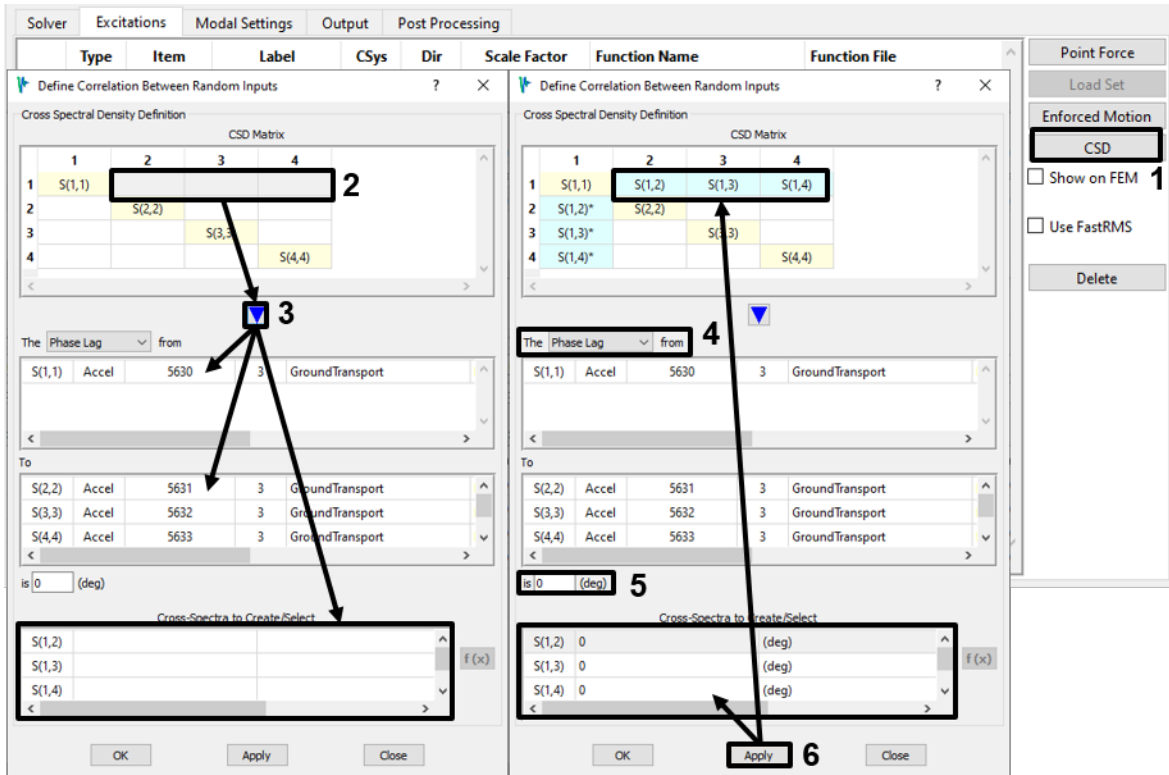

Figure 4-60. Define 0-degree phase lag correlations from the first input PSD to the other three.
2. On the *Excitations* tab, bring up the CSD dialog. Select the entire first row of the *CSD Matrix* table and click the **Assign Selected CSD** button  (Figure 4-60). This prepares the dialog to create correlations from the first input PSD to the other three PSDs. Make sure the **CSD Type** pulldown is set to *Phase Lag* and the **Phase/Time**